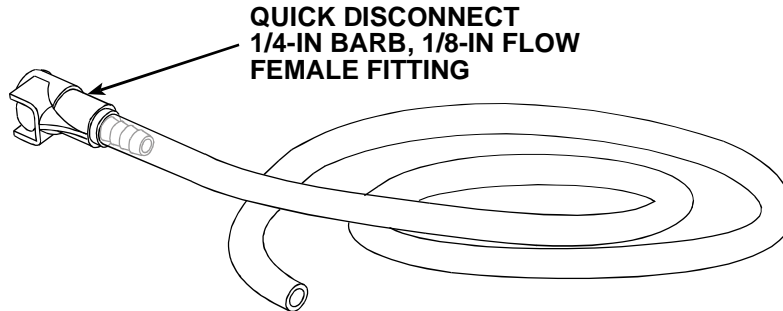

Figure 8 Ink Tank Return Tubing Assembly (9600-784)
- 9600-784 ink tank return tubing assembly (*Fig. 8*)